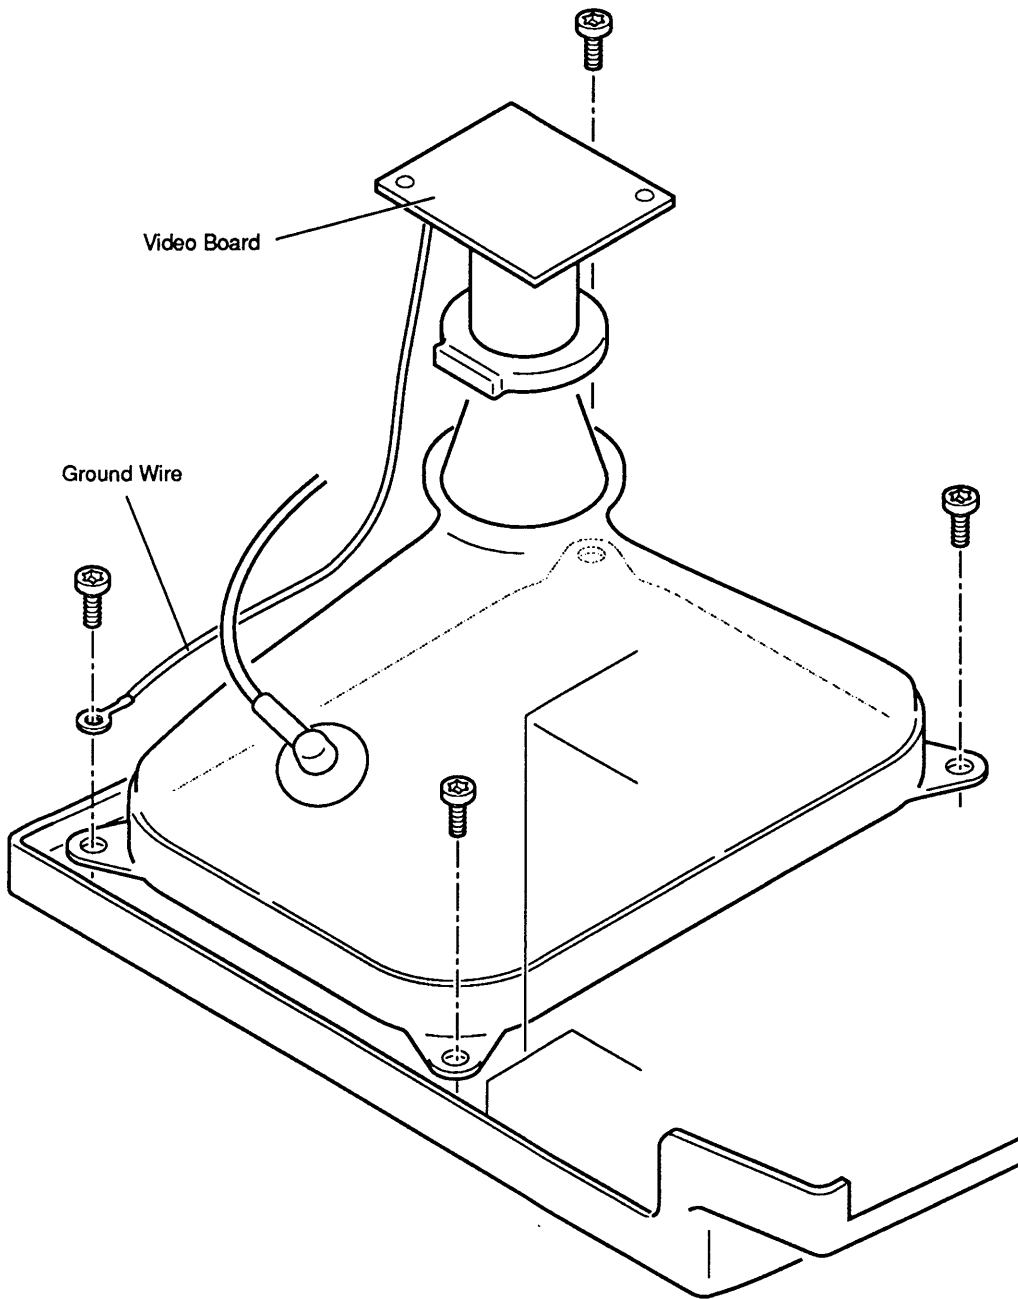

Figure 2-16 Cathode-Ray Tube (CRT)
Refer to **Figure 2-16** when removing and replacing the CRT.
2. Place the CRT face-down in the bezel, with the anode aperture on your left (**Figure 2-16**).